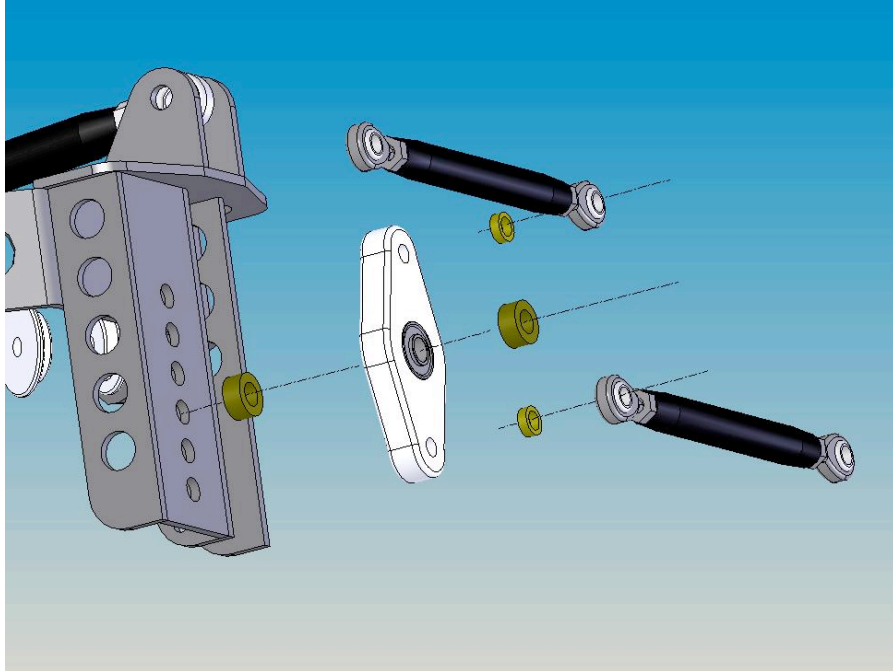

Figure 4.
- 9) Install the Watt's lever onto the third member bracket using the supplied hardware. Place one  $\frac{1}{2}$ " x  $\frac{5}{8}$ " bushing on each side of the lever and fasten with the supplied  $\frac{5}{8}$ " bolt, nut and lock washer. Torque to 50 lb. ft. See figure 4.